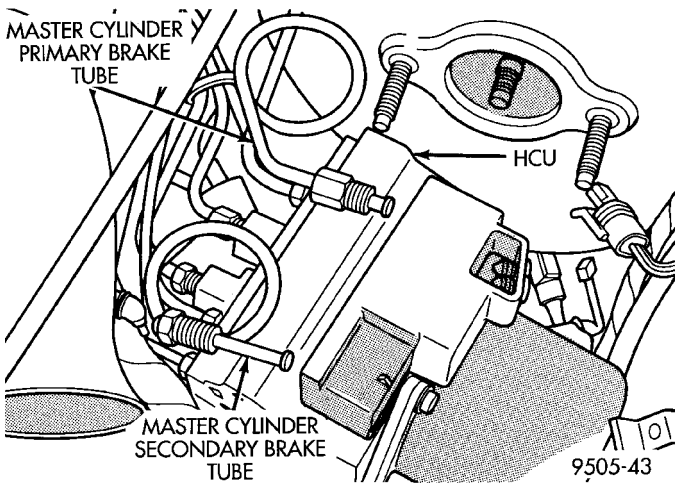

Fig. 16 Primary And Secondary Brake Tubes From Master Cylinder To HCU
(8) Remove the primary and secondary master cylinder brake tubes (Fig. 16) from the HCU.
(8) Install primary and secondary brake tubes (Fig. 16) from the master cylinder onto the HCU, **with tube nuts only hand tightened.**